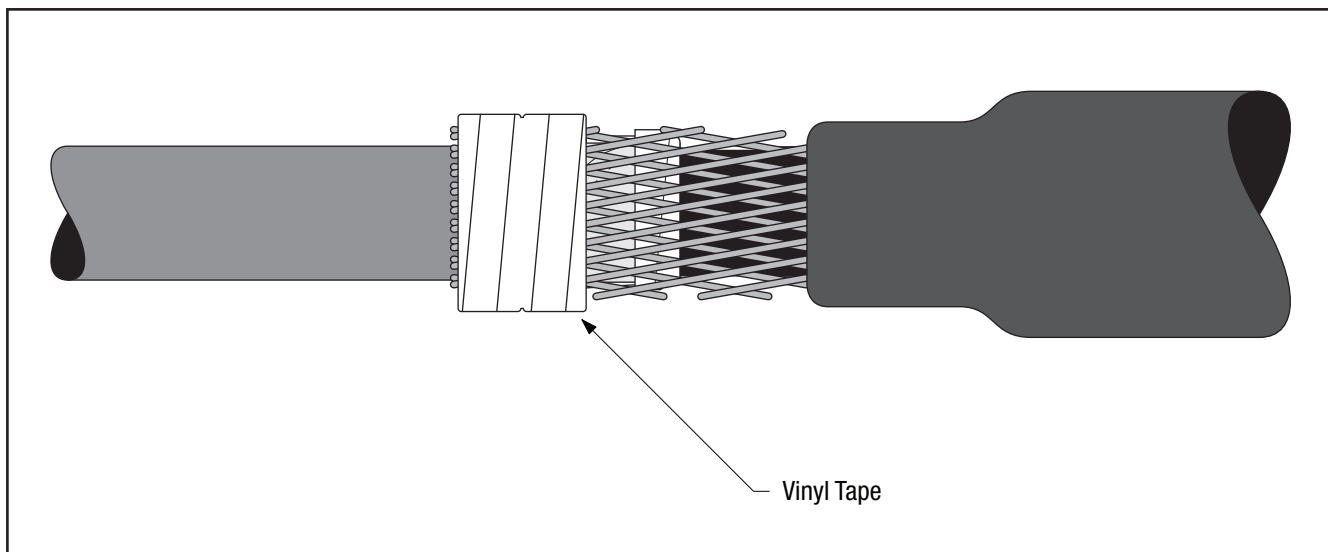

Figure 15
5.4 Wrap two half-lapped layers of vinyl tape over all constant force springs (*Figure 15*).